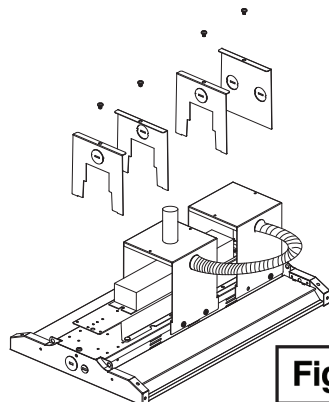

Fig. 4
4. Install the cover plates to the junction box bracket. **(Fig. 4)**